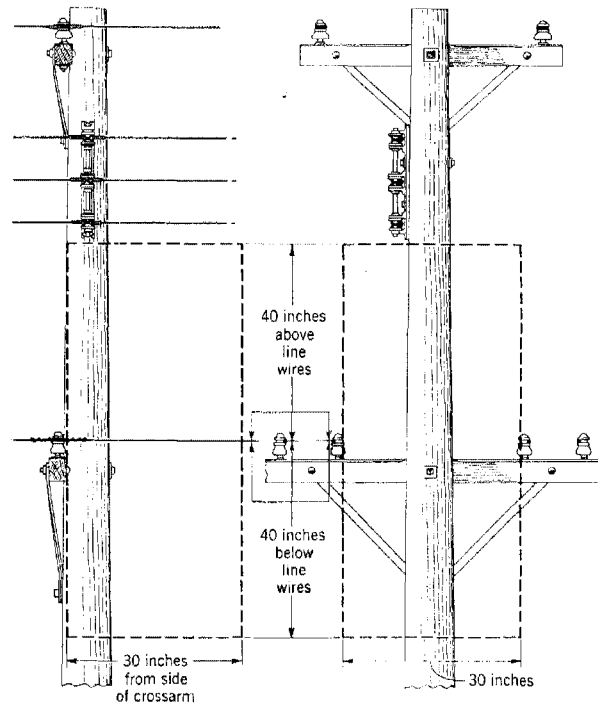

Fig. 1
2.01 Climbing space is an unobstructed vertical space along the side of a pole. In general, it consists of an imaginary box at least 30 inches on each side and extending at least 40 inches above the highest telephone cable, wire, crossarm, etc., and 40 inches below the lowest telephone cable, wire, crossarm, etc. See Fig. 1.